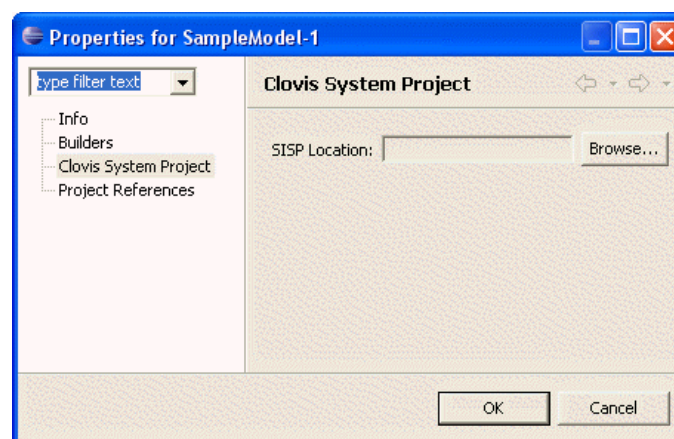

Figure 3-4 SISP Location Dialog
1. Right-click from the Clovis Workspace and select Properties. The Clovis System Project dialog appears, as shown in Figure 3-4.